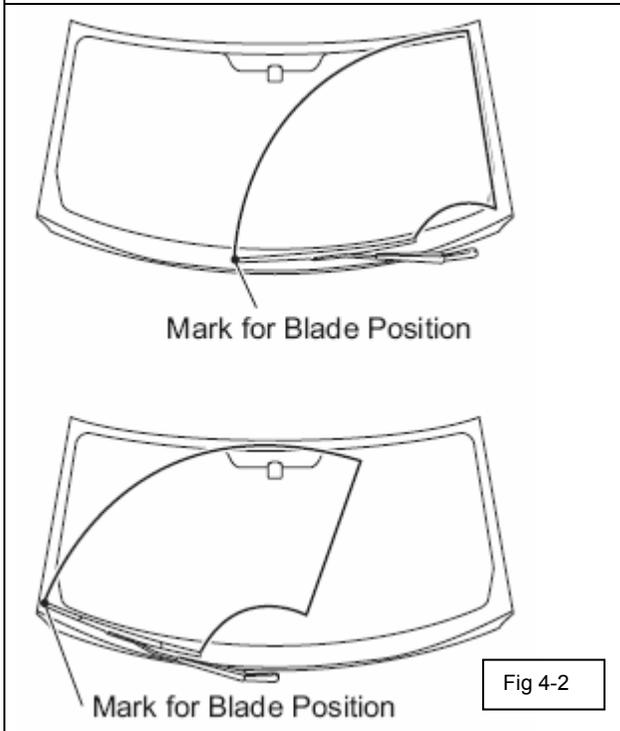

Fig 4-2
(1) Align the blade tip with the mark on the windshield glass, as shown. (Fig. 4-2)
(2) Tighten the nut on the wiper arm.